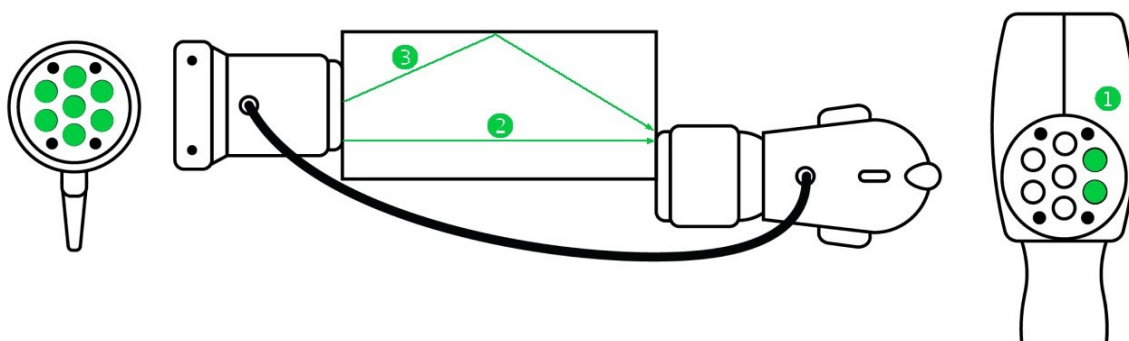

Figure 23: Core testing arrangement, Tx = 2, Rx = 7.
If the signal still became saturated28 and unstable, reduce the number of the transmitter's active sensors, see Figure 23 ① and ②.